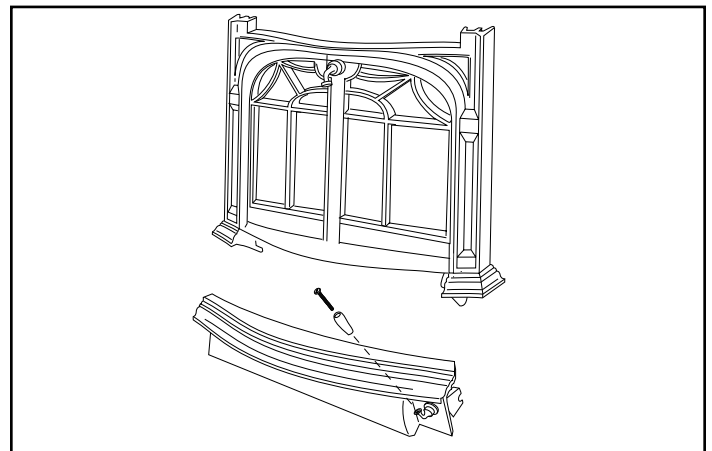

Fig. 21 - Attach the handle to the control door.
- Attach the wooden handle to the control door using the #8-32 x 2" screw from the parts bag. (Fig. 21)